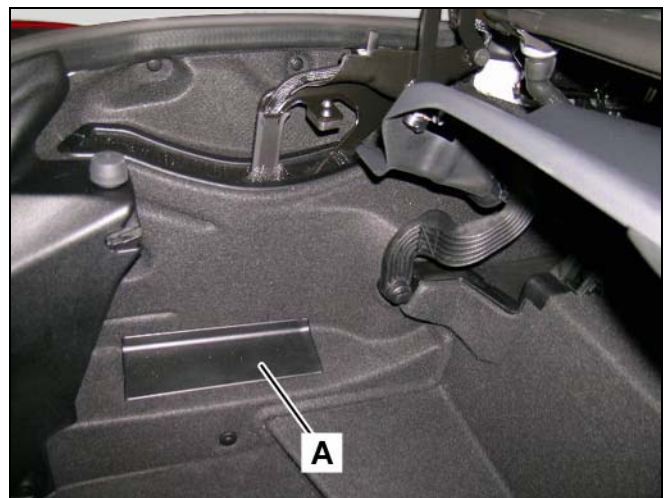

Figure 12
1. Remove the plastic cover (A, Figure 12) in the left side paneling in the trunk.